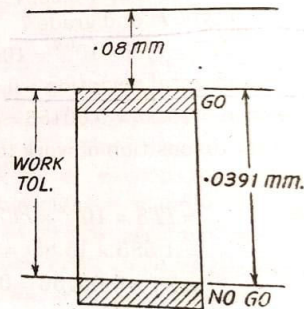

Fig. 4.56. Limits for ring gauge.
(2) Ring gauges. The various dimensions of Gap gauges are shown, in Fig. 4.56 and calculations made in a similar manner as for plug gauges.